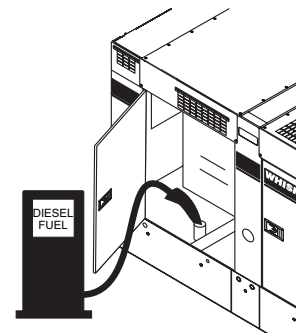

Figure 38. Fueling The Generator
2. Open cabinet doors on the “right side” of the generator (from the generator control panel position). Remove the fuel cap and fill the tank (Figure 38).